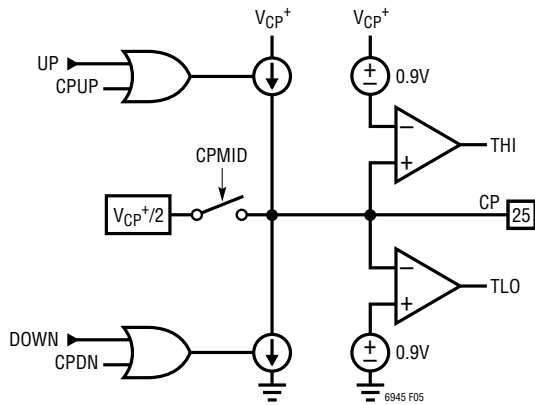

Figure 5. Simplified Charge Pump Schematic
The charge pump, controlled by the PFD, forces sink (DOWN) or source (UP) current pulses onto the CP pin, which should be connected to an appropriate loop filter. See Figure 5 for a simplified schematic of the charge pump.
The CPCHI and CPCLO bits found in register h0A enable the high and low voltage clamps, respectively. When CPCHI is enabled and the CP pin voltage exceeds approximately $V_{CP^+} - 0.9V$, the THI status flag is set, and the charge pump sourcing current is disabled. Alternately, when CPCLO is enabled and the CP pin voltage is less than approximately 0.9V, the TLO status flag is set, and the charge pump sinking current is disabled. See Figure 5 for a simplified schematic.